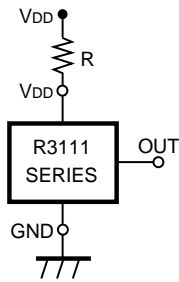

Figure 9
1. In Figure 9, When R3111xxxxC is used, and if an impedance is connected between Voltage Supplier and the V_{DD} Pin of R3111xxxxC Series, the operation might be unstable by cross conduction current at detection.
When R3111xxxxA/B is used in Figure 9, if the value of R is set excessively large, voltage drop may occur caused by supply current of IC itself and Detector threshold may vary.